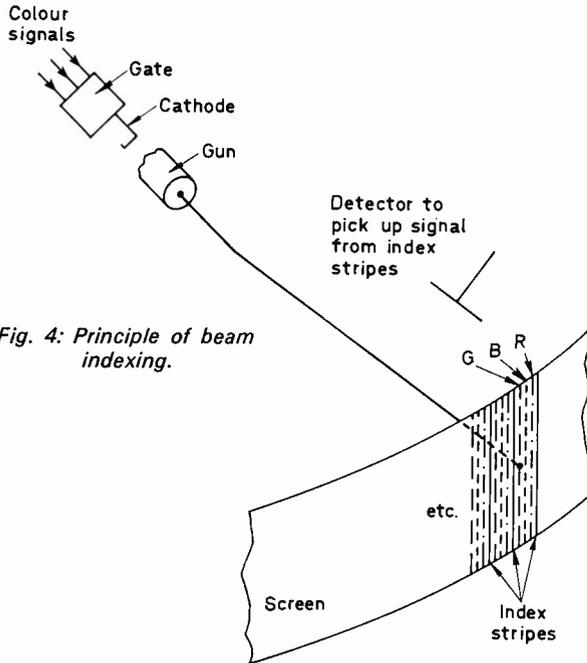

Fig. 4: Principle of beam indexing.
**625-Line Receiver:** We have learnt that some of the line output transformers supplied have the connections to tag 3 and the tag beneath it marked "unused" in Fig. 4 (pages 302-3 April issue) reversed. If with such a transformer the coils are connected to tag 3 there will be reduced scan amplitude and foldover at the left. To cure this, drop the coil connection to the tag below tag 3.
This type of tube (Fig. 4) represents a development of the thought behind the beam deflection tube. In this type of tube the beam is deflected over a set of vertical phosphor stripes and a detector system is used to feed back information on the position of the beam. If we know exactly where the beam is at any moment we can switch the cathode to the colour signal appropriate to the colour of the phosphor the beam is striking.